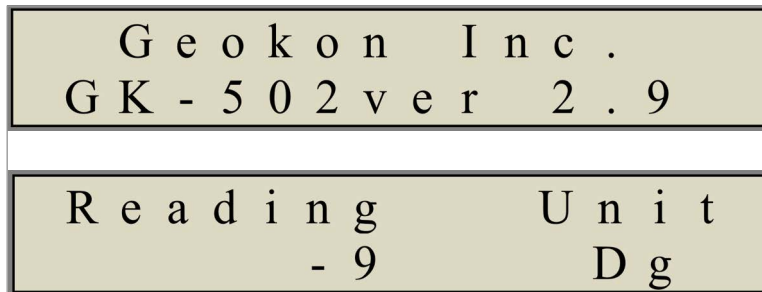

FIGURE 4: Startup Display Screens
2. Press the **ON/OFF** switch. The readout will display two screens (see Figure 4) in succession.
4. Press **CFG** to enter the Configuration menu. The readout will display two screens (see Figure 4) in succession.